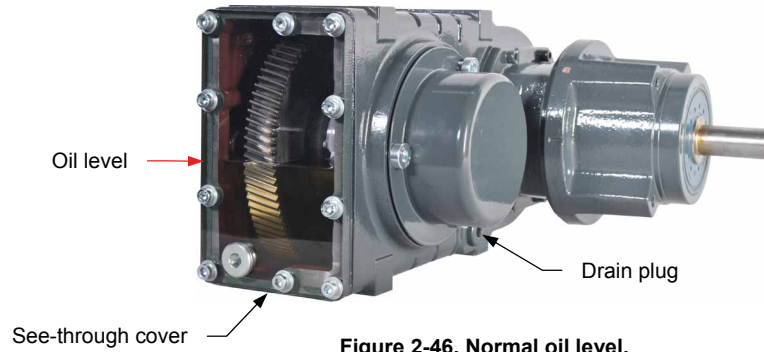

Figure 2-46. Normal oil level.
The trainer gearbox comes pre-filled with about 1.3 L (0.34 gal) of synthetic oil. A normal oil level should be around the middle of the see-through cover, like on Figure 2-46. Do not underfill or overfill the gearbox.
4. Is the gearbox oil level similar to what you see in Figure 2-46?